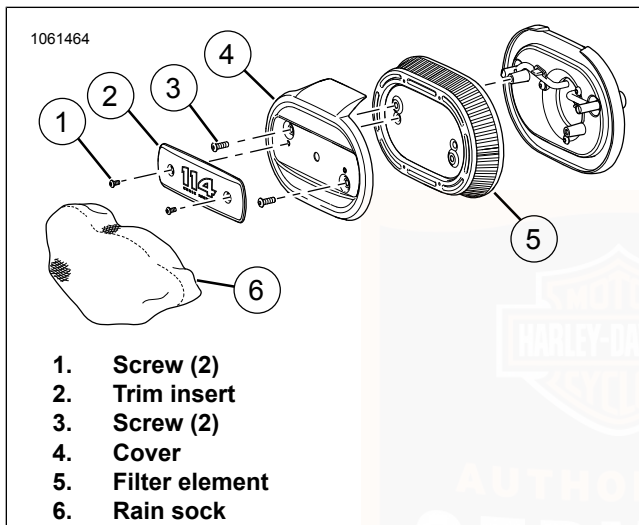

Figure 71. Air Cleaner: Oval
1. See Figure 71. Remove air cleaner trim insert.
- a. Remove trim insert screws (1).
- b. Remove trim insert (2).
- a. Remove screws (3).
- b. Remove cover (4).
- c. Remove filter element (5).
If equipped with oval air cleaner: See Figure 71. In wet or rainy conditions, because the filter element is exposed, water can enter the engine. When parked, water can cause internal engine corrosion or damage. When running, water can cause the engine to misfire. In wet or rainy conditions, install the rain sock (6) over the air cleaner assembly to minimize water intrusion.
1. See Figure 71. Install cover and filter element.
- a. Install filter element (5).
- b. Install cover (4).
- c. Install screws (3). Tighten. 50–60 **in-lbs** (5.7–6.75 N·m)
- a. Install trim insert (2).
- b. Install trim insert screws (1). Tighten. 27–32 **in-lbs** (3–3.6 N·m)